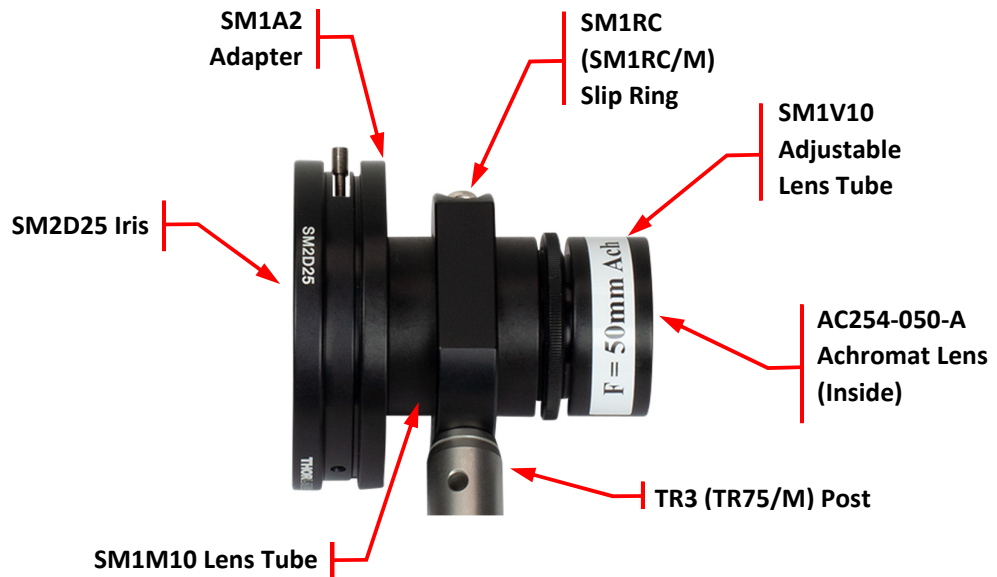

Figure 1: Condenser lens assembly.
- a. In this paper, in Figure 1, the "Field Diaphragm of Eyepiece" and the "Primary Image" are where your camera goes; ignore the eyepiece lens and eye above that. Note: "diaphragm" is another word for "iris".
- i. If necessary, assemble your condenser lens system; see Fig. 1 below (the condenser system is very similar to the objective from Lab 3).